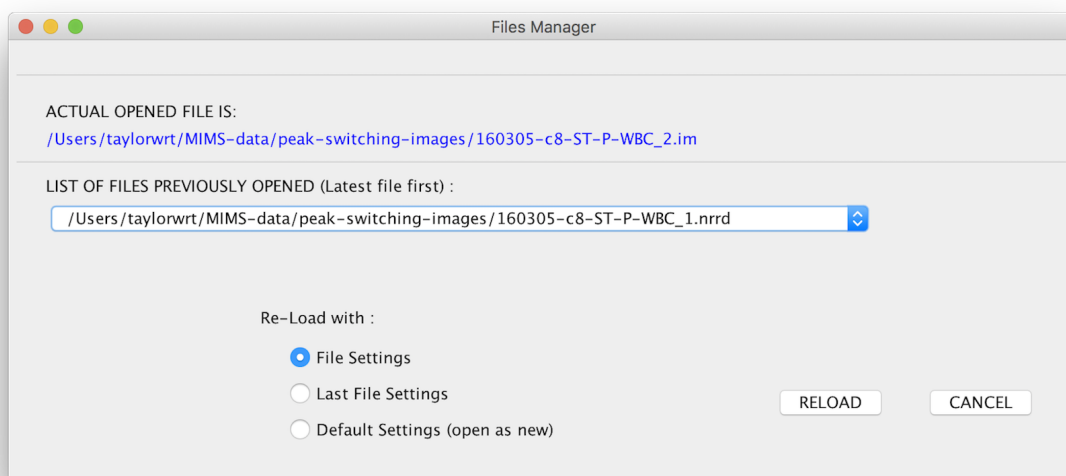

Figure 19: The Files Manager dialog.
**Files Manager:** Display the Files Manager dialog, which shows the currently-open image file, a combobox with a list of previously opened files, and radio buttons that allow the reloading of a previously opened file with its file settings, the current file settings, or the default file settings. See Figure 19.